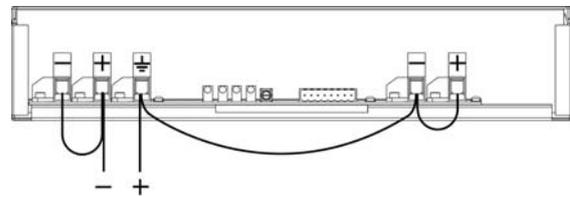

Figure 7. Input to output and input to case isolation voltage test.
4. Connect your isolation tester between input and case. See *Figure 7*. Raise the voltage of the isolation tester from 0 to 2500Vd.c. Check that the leakage current does not exceed 5 μ A. The voltage should not be applied for more than a few seconds or the Y-capacitors might be damaged.
2. Connect the output terminals of the converter to case. See *Figure 7*.
4. Connect your isolation tester between input and case. See *Figure 7*. Raise the voltage of the isolation tester from 0 to 3000Va.c. The voltage should not be applied for more than one (1) minute or the Y-capacitors might be damaged.